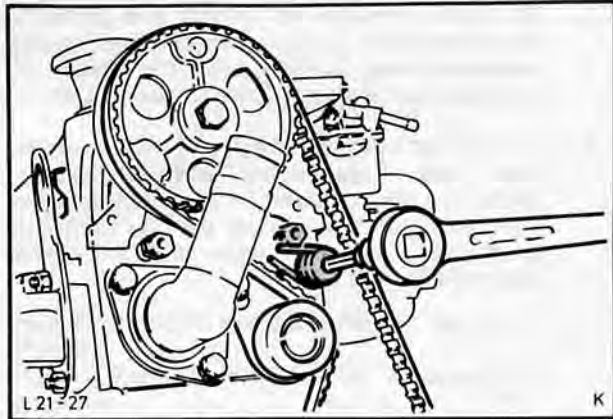

Fig. 138. Slacken toothed belt tensioner using Special Tool 21-012
6. Remove toothed belt guard (3 bolts) and rocker cover (10 bolts). Slacken toothed belt tensioner using Special Tool 21-012 (1 hexagon bolt, 1 special bolt) Fig. 138, press against spring pressure and retighten. Remove toothed belt from camshaft toothed belt pulley.